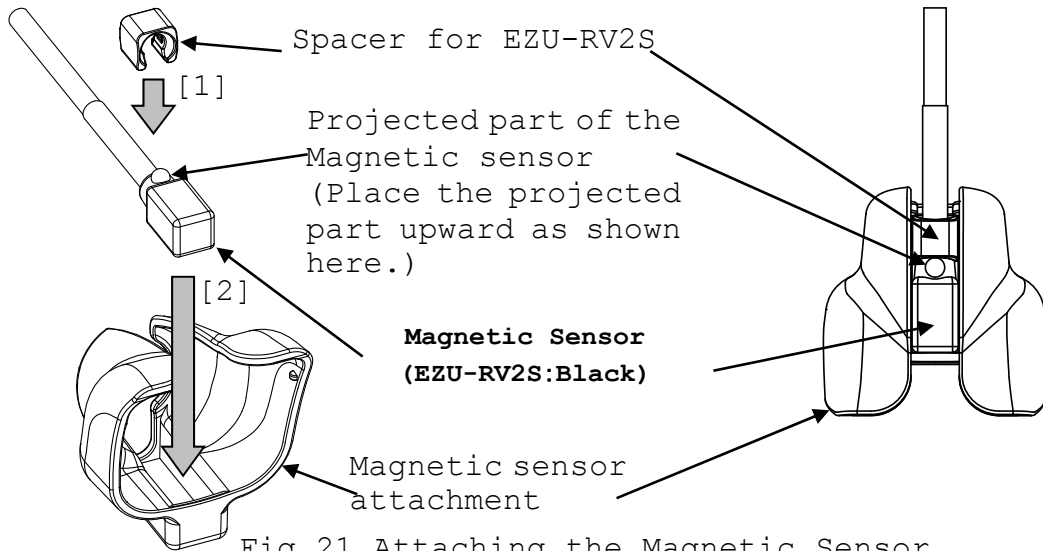

Fig.21 Attaching the Magnetic Sensor
- 1) Insert the Spacer for EZU-RV2S in the Magnetic sensor [1] and into the Magnetic sensor attachment with correct direction [2] as shown in Fig.21. Place the projected part upward as shown in Fig.21.